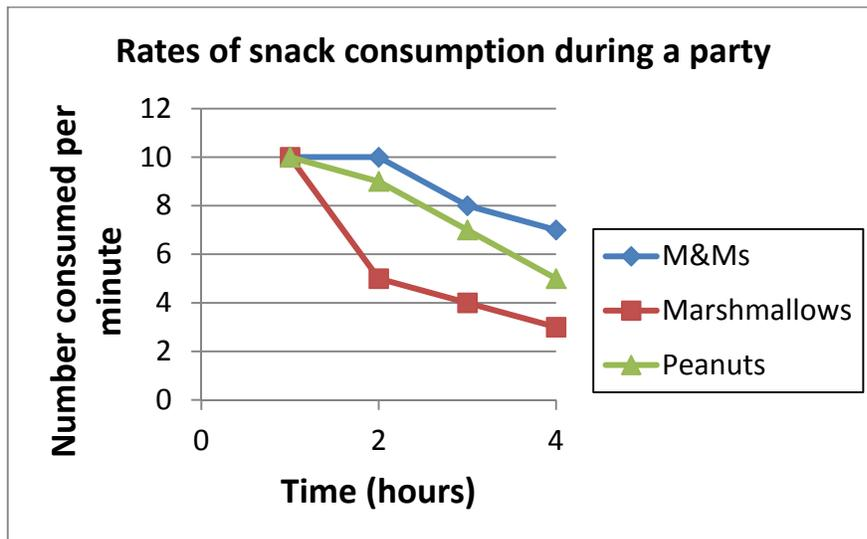

Figure 6. Line graph based on the rates of consumption of different snack types at a party presented in Table 2.
- Examine Table 2 and Figure 6.